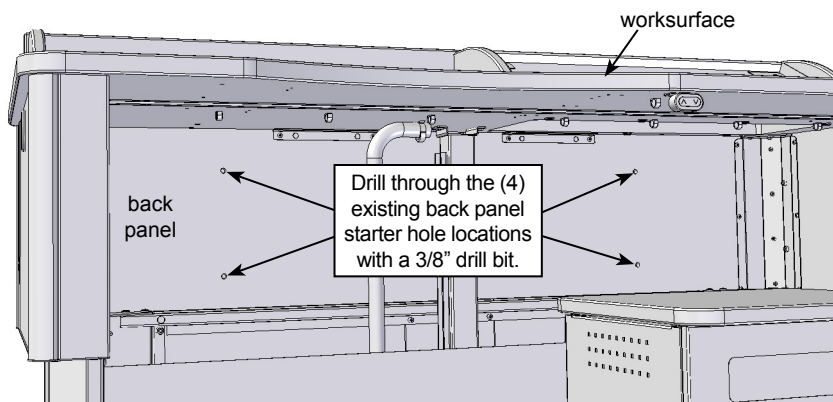

Figure 1
2. With an electric drill and 3/8" drill bit, carefully drill the (4) existing back panel starter holes completely through the back panel (access under the worksurface). **Figure 1.**